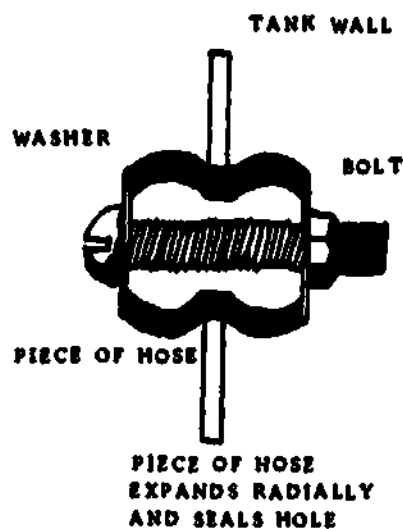

Fig 3-9. Repair for punctured tank.
- (2) Puncture. A tank may be damaged by a sharp object piercing it and pushing the edges of the break to the inside. To repair such a puncture, cut a plug from a tire, rubber heel, or rubber hose about the size and shape of the hole. Remove a bolt and nut from the vehicle and force the bolt through a hole cut in the center of the plug. After installing a nut on the bolt, force the bolt and about half the plug into the hole in the tank; tighten the nut until the pressure on the rubber forces it to expand and plug the hole. Figure 3-9 shows how the rubber expands and fills the hole. A repair of this kind will last for an indefinite length of time.